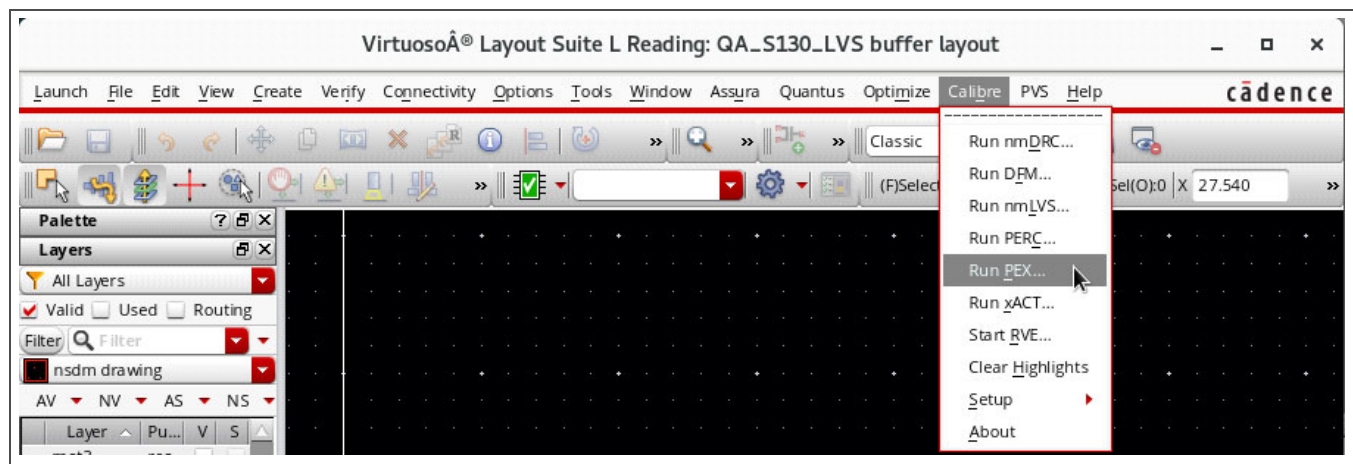
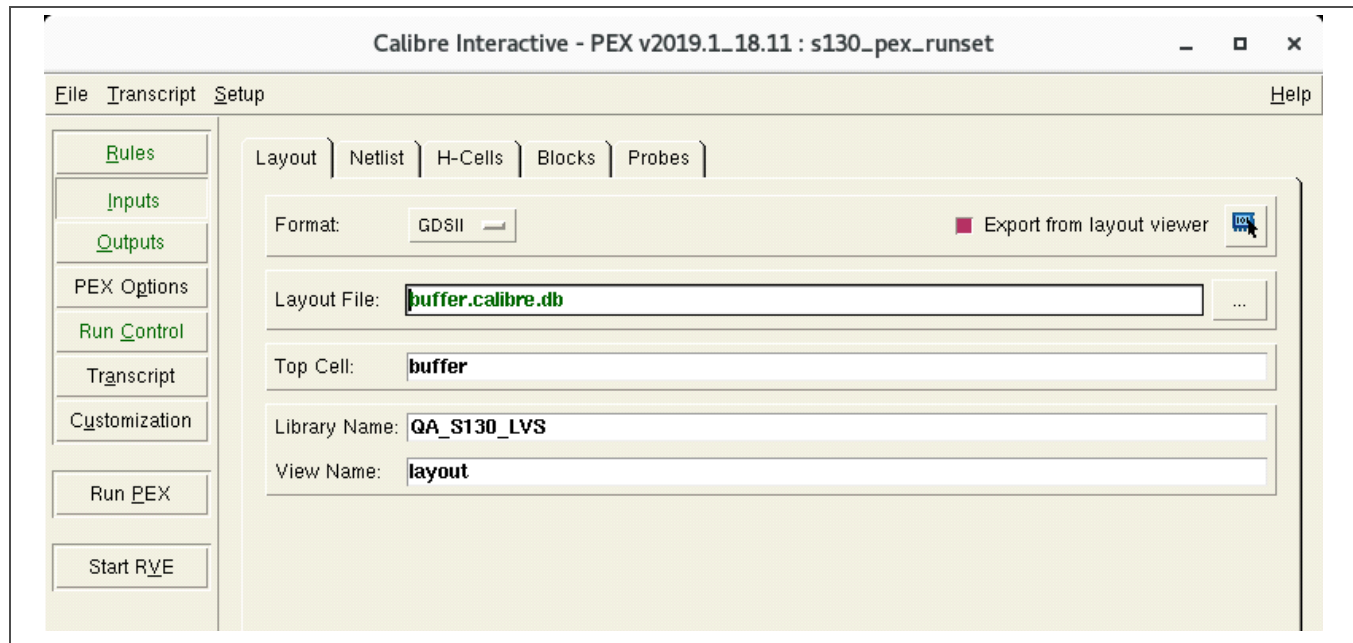

Figure 6-1. Calibre Tools Menu
Figure 6-2. Calibre PEX Runset Form
1. From the layout view, select **Calibre > Run PEX...**, as shown in *Figure 6-1*, to open the Calibre user interface PEX runset form shown in *Figure 6-2* on page 92 that has all the fields populated with the information needed to execute the run.